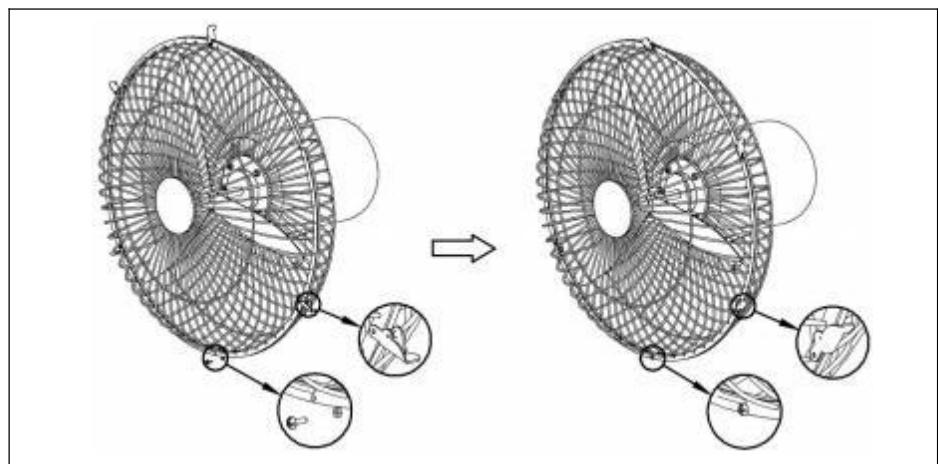

Fig.7.
3). Align the screw holes at the bottom of the front and rear grilles, then fasten the buttons on the top of the front grille cover to the back grille cover,fasten all the grille cover button (2) , and finally lock the safety screws(18).See the (Fig.7.)